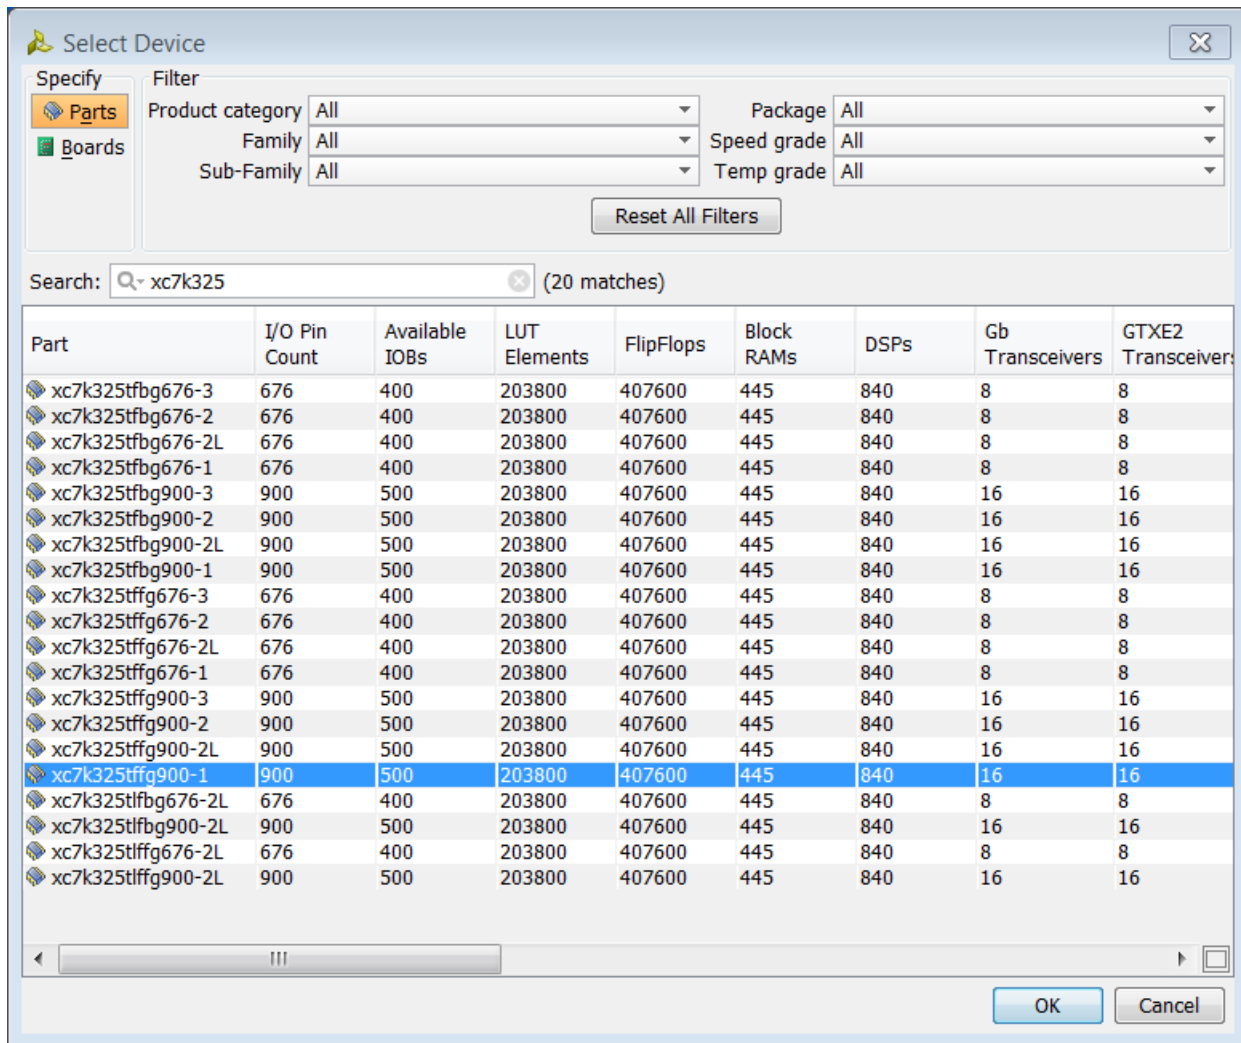

Figure 134: Select Part
- The Select Device dialog box opens. Ensure that **Parts** is selected under **Specify** and type **xc7k325** in the search field. From the list of available devices, select the **xc7k325tffg900-1** part, and then click **OK** (FIGURE 134).